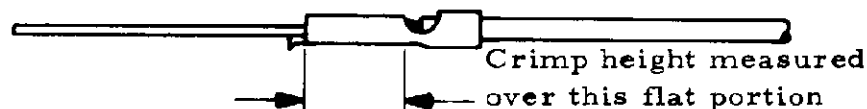

Figure 2
- (2) Crimp height shall be measured at the location shown in Figure 2.